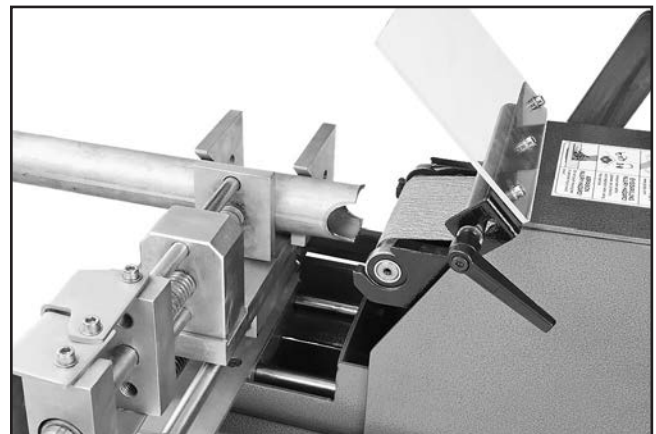

Figure 33. Example of notch in end of tubing.
17. When notch is complete, use feed lever to move tube away from abrasive belt (see **Figure 33** for an example).